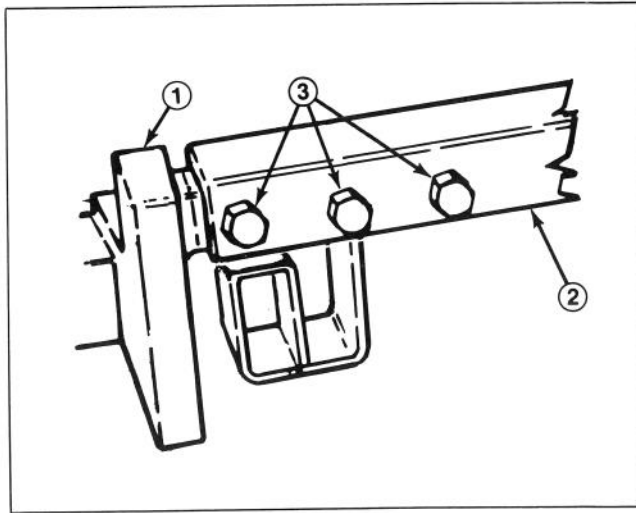

Figure 5
2. Slide carrier frame onto lift arms aligning mounting holes. Secure each side of carrier frame to lift arms with (3) 1/2 - 13 x 1-3/4" lg. capscrews. Torque capscrews to 70-80 ft-lb. (Fig. 5).